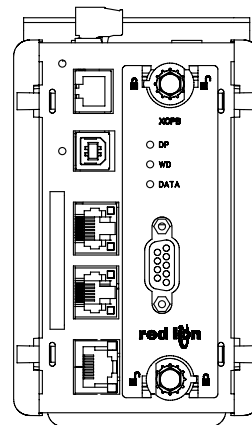

Figure 4
5. Turn the option card knobs to the locked position as shown in Figure 4.